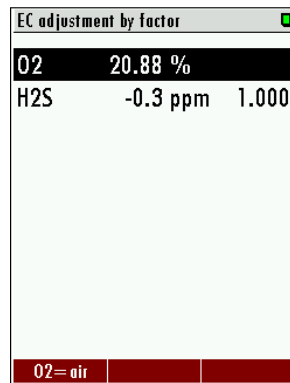

Fig. 1
- Open the EC ADJUSTMENT BY NOM. VALUE menu item (Fig.1).